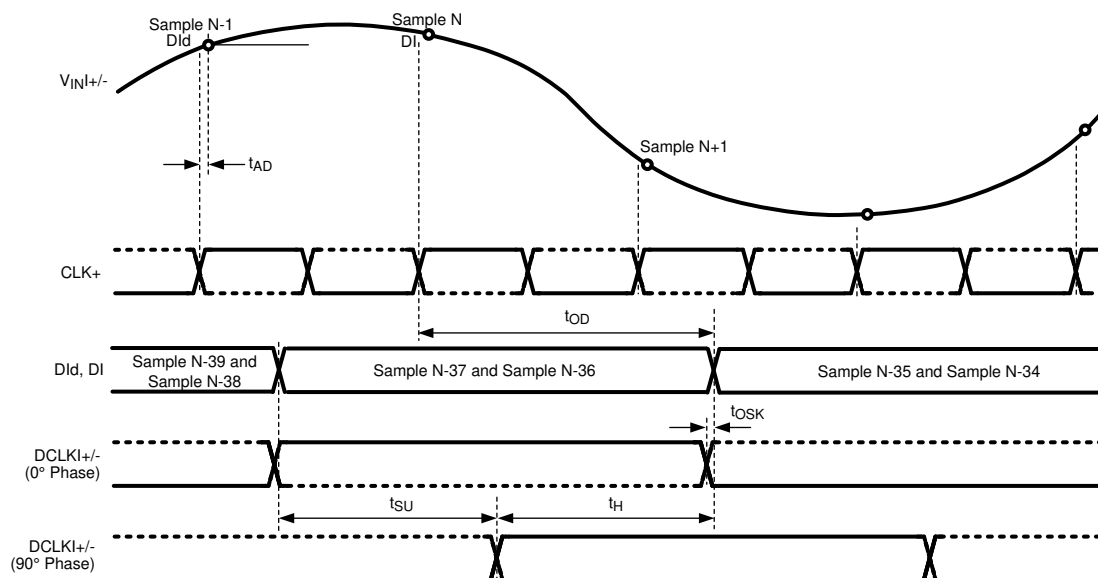
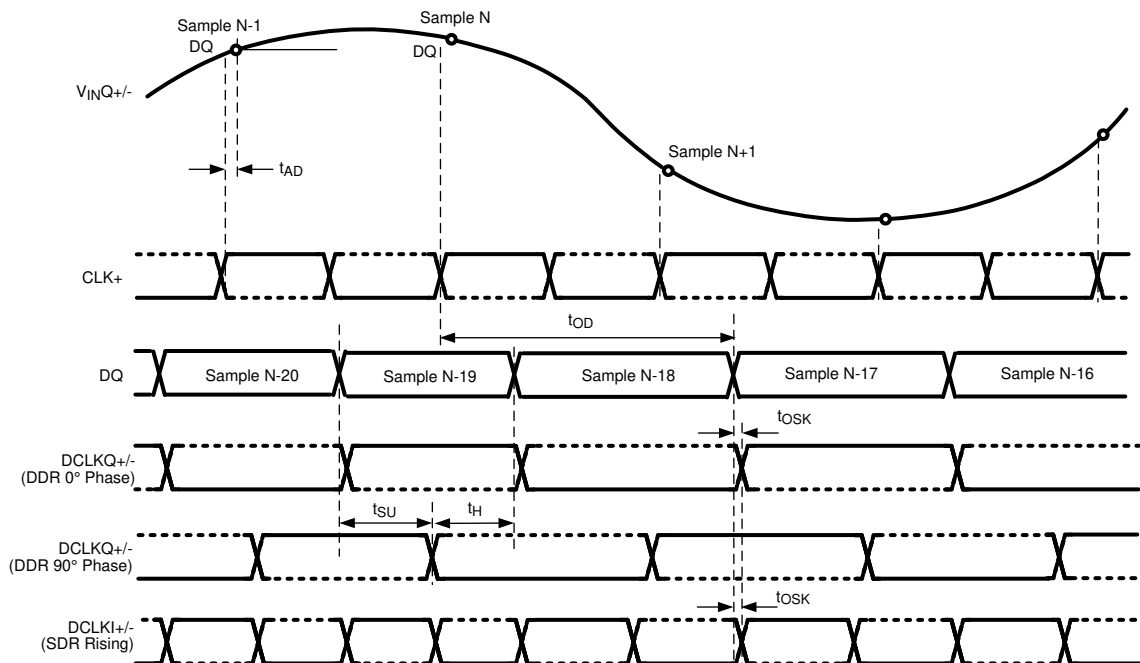

图 6-1. Clocking in Non-LSPSM, 1:2 Demux, Non-DES Mode*
图 6-6. Clocking in LSPSM, Non-Demux Mode, Non-DES Mode*
* The timing for 图 6-1 through 图 6-6 is shown for the one input only (I or Q). However, both I and Q inputs may be used. For this case, the I channel functions precisely the same as the Q channel, with $V_{IN}I$, $DCLKI$, DId , and DI instead of $V_{IN}Q$, $DCLKQ$, DQd , and DQ . Both I and Q channel use the same CLK .